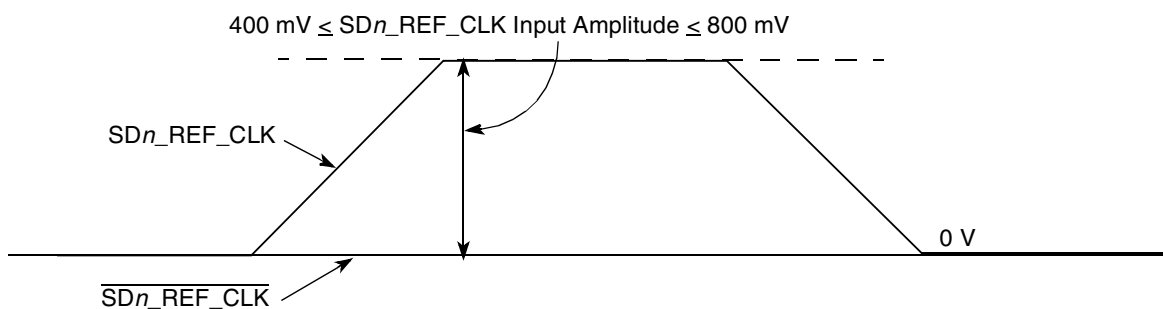

Figure 33. Single-Ended Reference Clock Input DC Requirements
- The SDn_REF_CLK input average voltage must be between 200 and 400 mV. Figure 33 shows the SerDes reference clock input requirement for single-ended signaling mode.